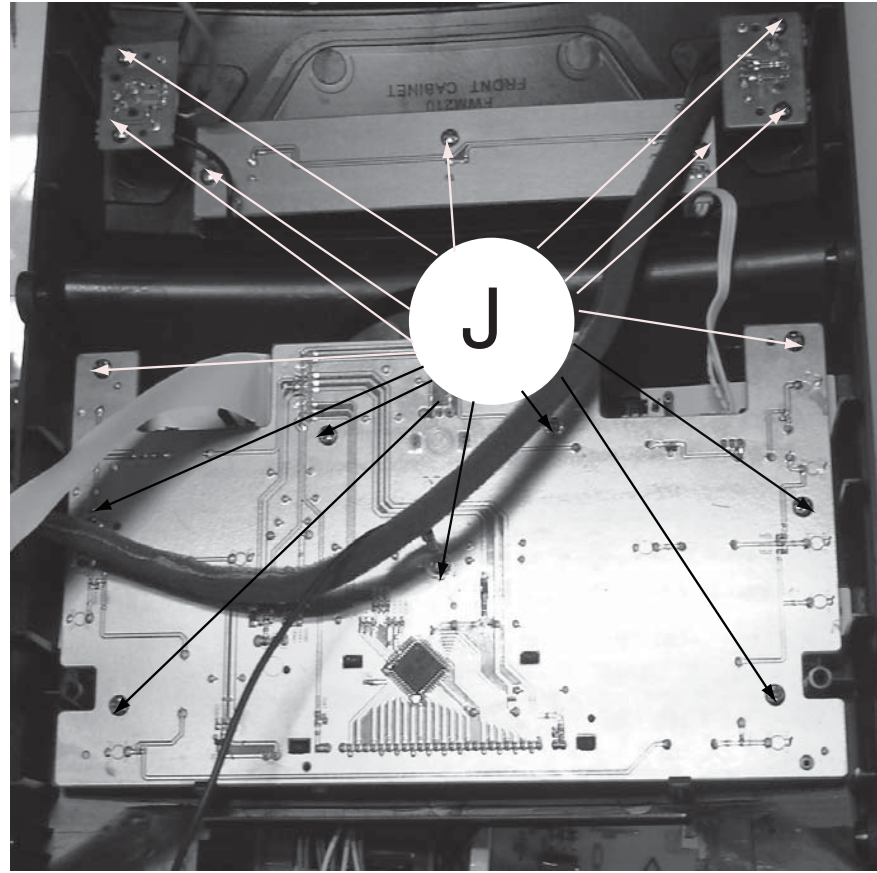

Figure 11
1) Loosen 15 screws "J" on the top of Main Board as shown in figure 11.